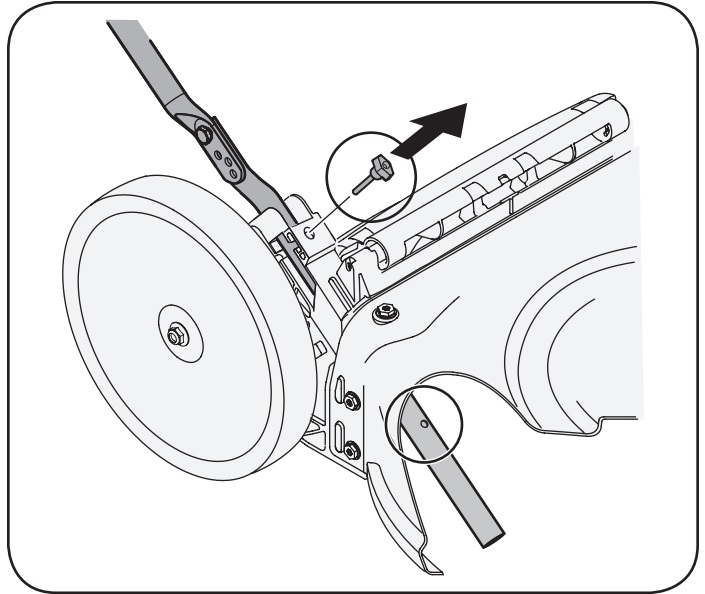
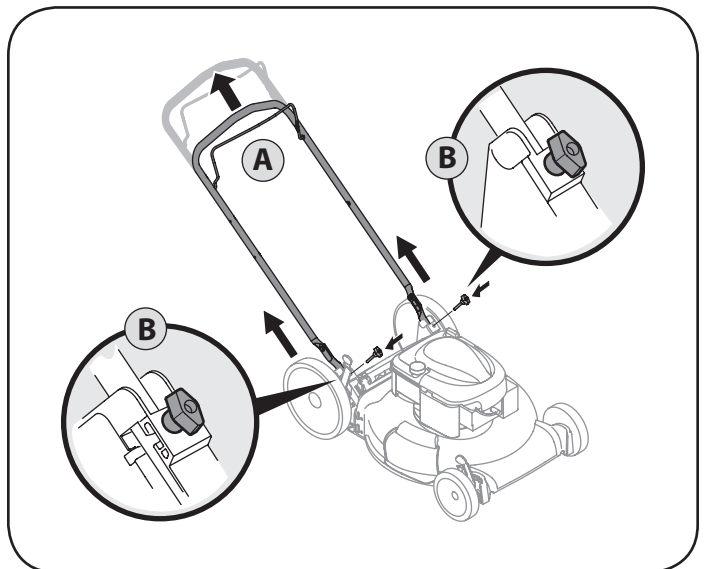

Figure 3
Figure 4
2. Remove the T-bolts from the handle brackets as shown in Figure 3.
- a. Pull upward on the handle until holes in lower handle (shown in Figure 3 deck cutaway) line up with holes in handle bracket. See Figure 4.
- b. Insert the T-bolts removed earlier through the handle brackets and lower handle and tighten securely to secure the handle in place. See Figure 4.